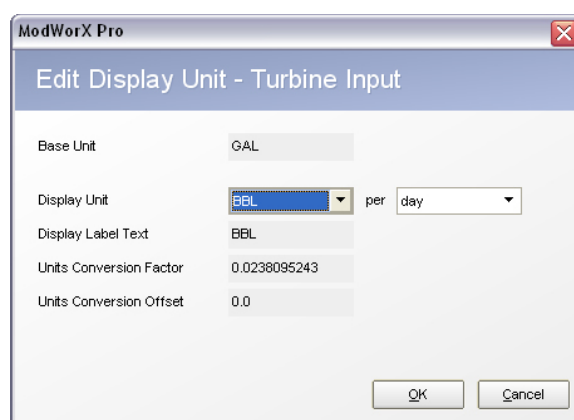

Figure 5.4
- To display flow volume or flow rate in a different unit, click **Edit**. The Edit Display Unit dialog will appear (Figure 5.4). The base unit is the unit in which the Scanner measures flow from the meter. Click on the **Display Unit** dropdown menus to select a display unit and/or volumetric rate unit. The conversion factor used to convert the base unit to the display unit will automatically update. To enter a custom unit, select **Custom** from the dropdown menu, and enter the desired conversion factor and offset factor. Click **OK** to save your changes and return to the Configure Turbine Input screen.